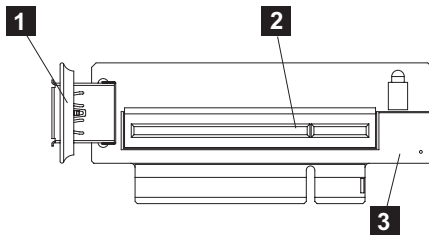

Figure 198. USB riser-card assembly for the SAN Volume Controller 2145-CF8
7. Remove the USB service-controller cable from the USB connection (**1** in Figure 198) on the disk-controller and USB riser-card assembly (**3**), as described in “Removing and replacing the SAN Volume Controller 2145-CF8 service controller cable” on page 78.